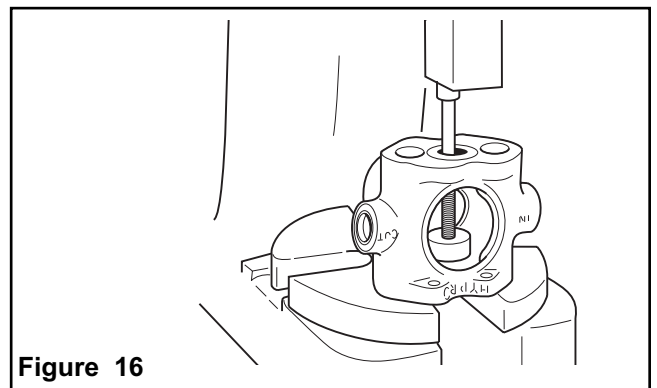

Figure 16
4. Place the arbor press ram on the bolt head and push both the Seal and Guide Retainer out of the pump body (See Figure 16).